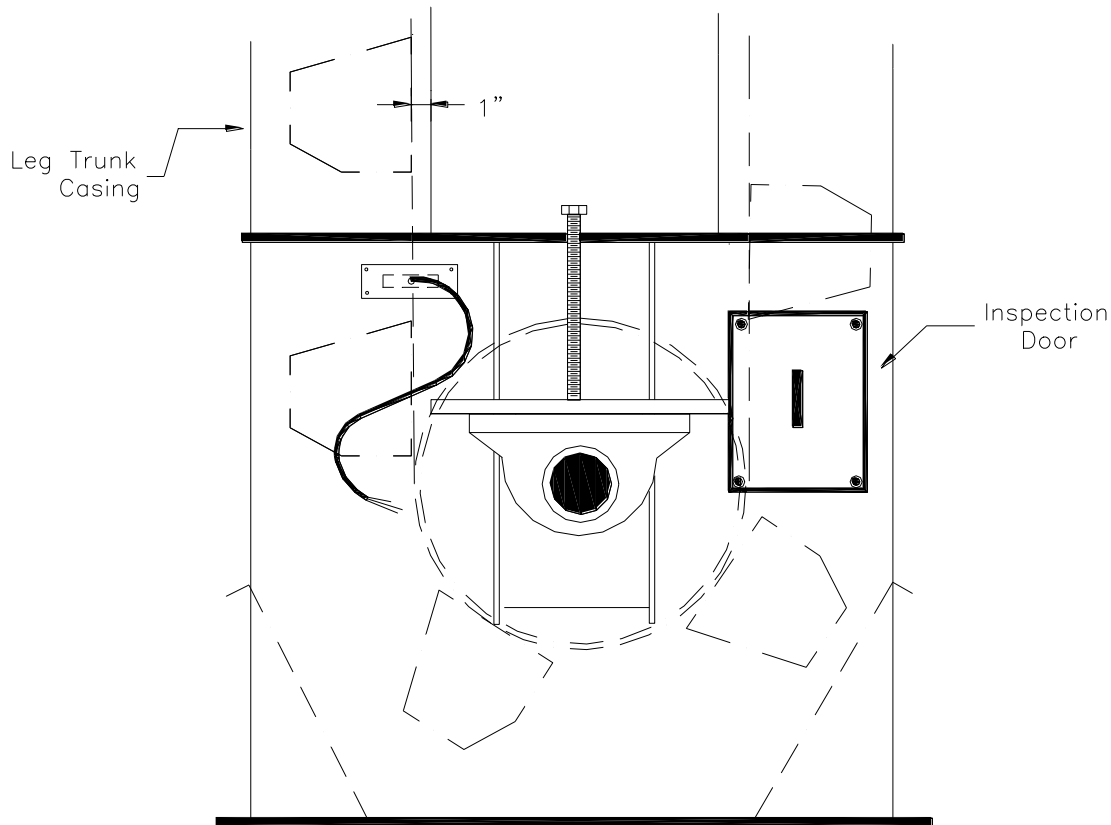
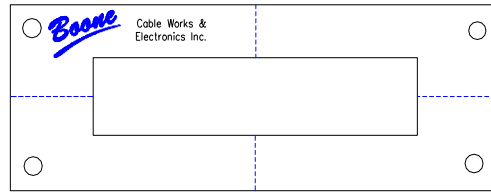

Figure 18. Rub Location on Elevator Tail
Figure 20. Rub Installation Template
- 6.6.1.2.2. If you still cannot locate the exact track of the belt by the previous method, then the following alternative may help. Measure out one inch from the inside of the trunk casing of the leg. (See Figure 18)
6.6.1.2.5. Next take the appropriate template provided, see Figure 20. and place it against the leg casing in alignment with the vertical and horizontal alignment marks that you have made previously in steps one and two. Dashed lines have been provided on the template for this purpose. The template is the exact size of the rub mounting plate to aid you in locating the rub away from obstructions. Minor adjustments can be made so long as the belt will still contact the brass portion of the rub fully should it track out of alignment. The location of the brass rub is indicated by the 5-1/8" x 1-1/4" cutout on the 3" x 8" template. You can use these as guides if minor adjustments are necessary. In some cases you may have to relocate the rub altogether in order to find a flush mounting location that still lines up with the belt. See Figure 18. The template is punched so that you can use it to mark out the mounting holes for the rub as well.